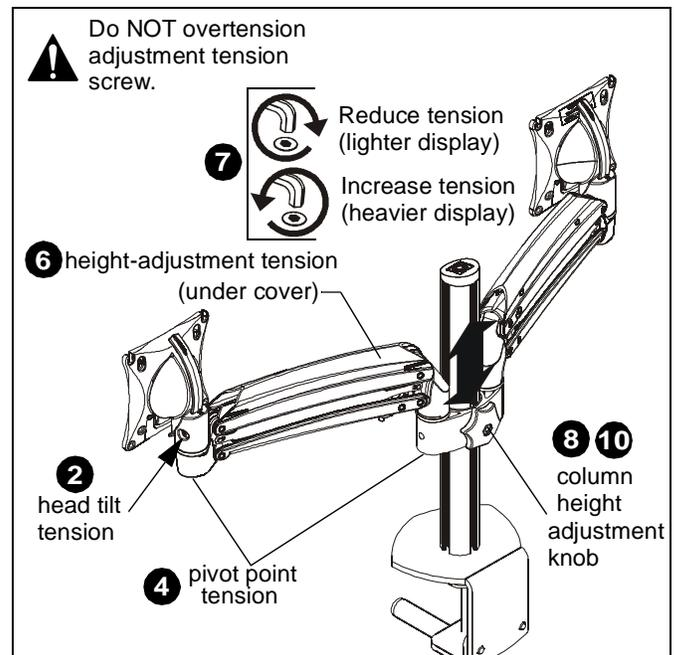

Figure 7
1. Adjust head tilt to desired tilt position. (See Figure 7)
2. Adjust head tilt tension screw to change the adjustment tension. (See Figure 7)
3. Adjust pivot position as desired. (See Figure 7)
4. Use 3/16" hex key (E) to adjust pivot point tension screws to change pivot adjustment tension. (See Figure 7)
5. Adjust arm height to desired level. (See Figure 7)
7. Use 1/8" hex key (F) to adjust height-adjustment tension screw to change adjustment tension. (See Figure 7)
8. Turn column height adjustment knob counter-clockwise until mount can be adjusted vertically on column. (See Figure 7)
9. Adjust position of mount to desired height. (See Figure 7)
10. Turn column height adjustment knob clockwise until mount is securely tightened to column. (See Figure 7)